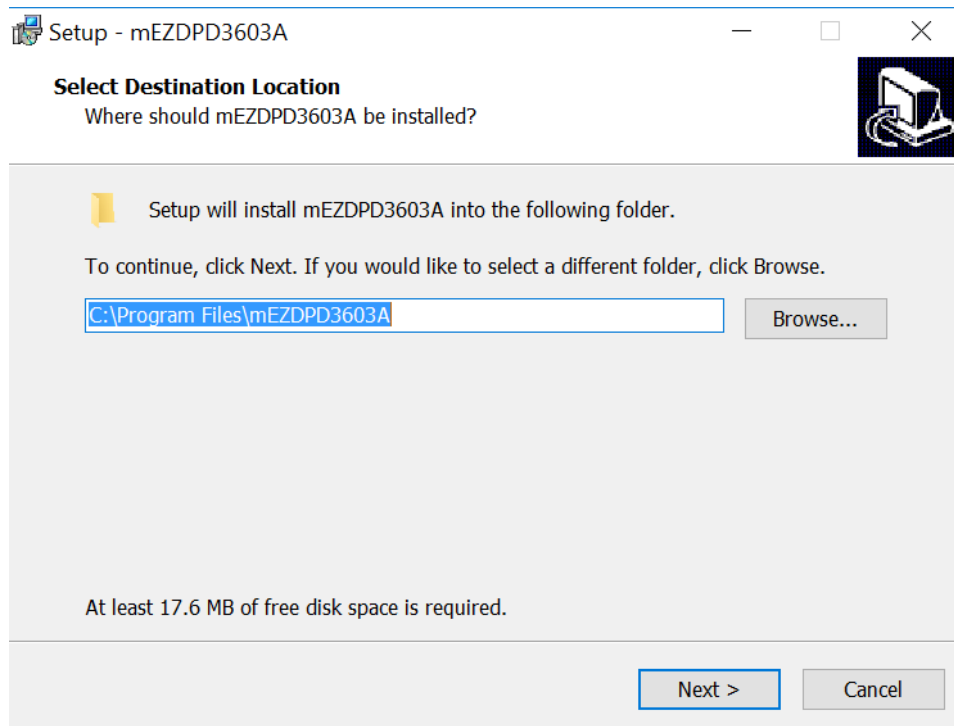

Figure 4: MPS I2C GUI Set-Up Guide
3. Double click the .exe file to open the set-up guide (see Figure 4).